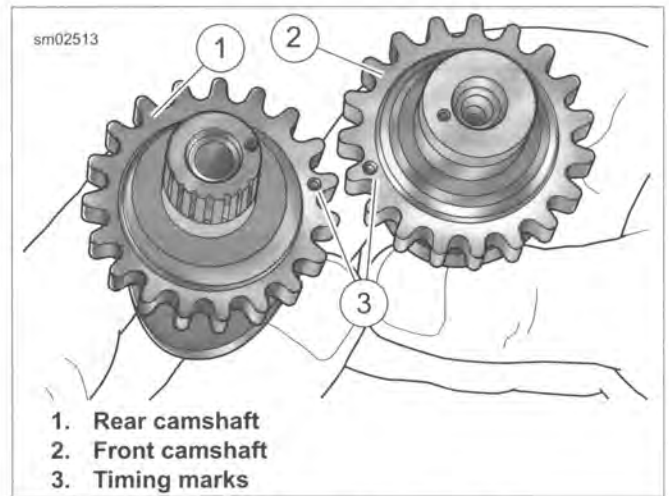

Figure 3-93. Camshaft Timing Marks
1. See Figure 3-93. Align timing marks on teeth of secondary cam sprockets.